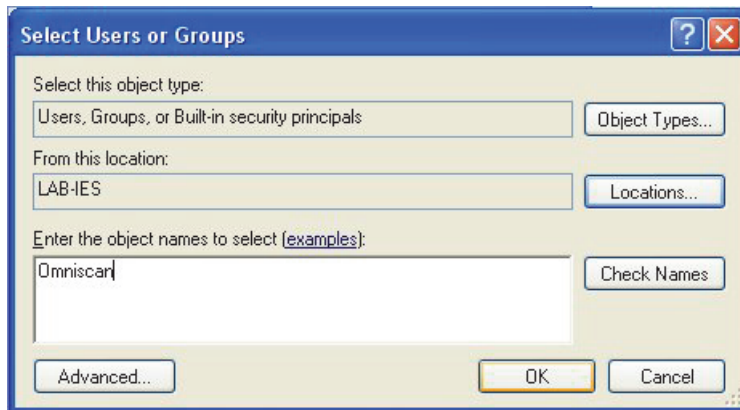

Figure 14-11 The **Select Users or Groups** dialog box (Windows XP)
The **Select Users or Groups** dialog box appears (see Figure 14-11 on page 305).
10. In the **Select Users or Groups** dialog box, in the **Enter the object names to select** text box, type **Omniscan** (see Figure 14-11 on page 305), and then click **OK**.